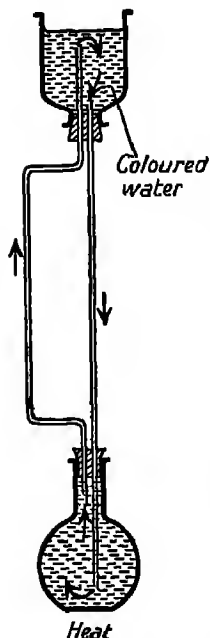

FIG. 245. Circulation of water by means of convection currents.
**Expt. 292.** Fit up an apparatus as shown in Fig. 245. Put some coloured ink in the water in the top vessel. Heat the flask, gently at first. Convection currents are formed and the water rises up the bent tube to the top vessel. The coloured water from the top flows down the vertical tube to take the place of the rising water. Soon all the water in the apparatus is coloured.